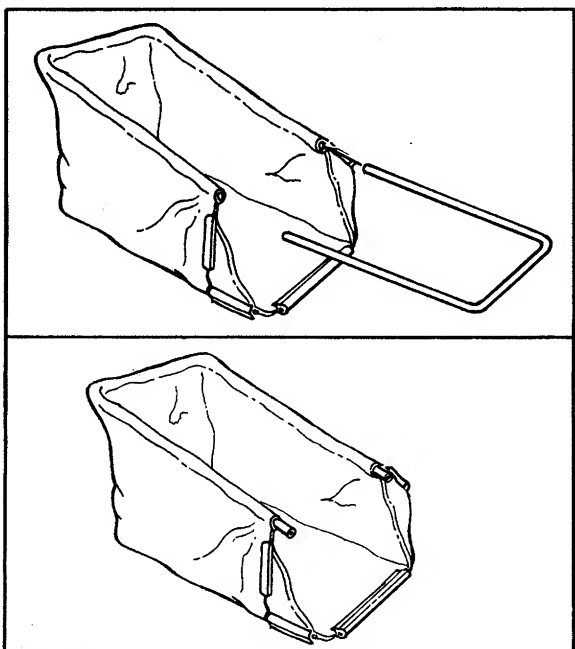

FIGURE 10.
1. Insert one end of the rear frame into the cloth channel on the edge of the grass bag. See figure 10. Feed all the material on one side of the frame before working it around frame.